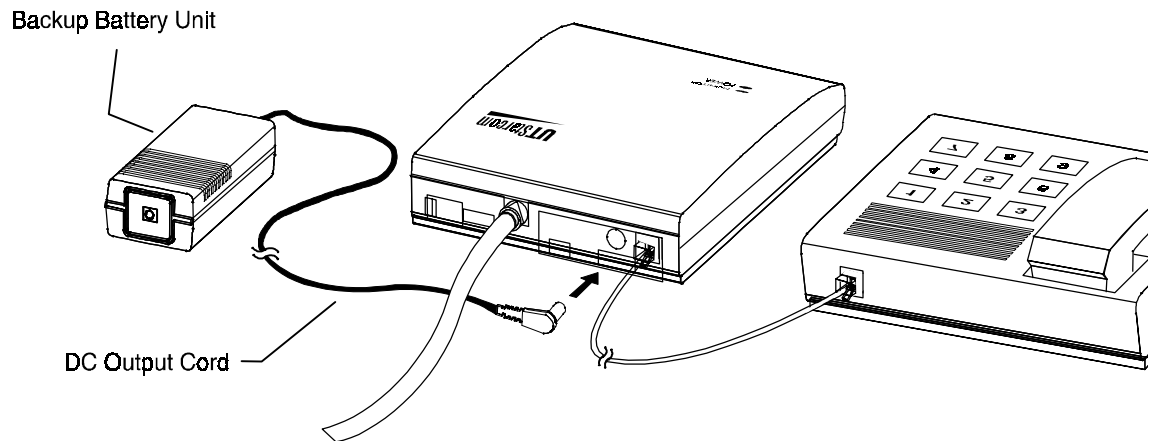

**Figure 4-13 : Telephone Cord Connection**
3. Connect the telephone set to the RJ-11 jack on the back of the FSU using a standard telephone cord. See Figure 4-13.